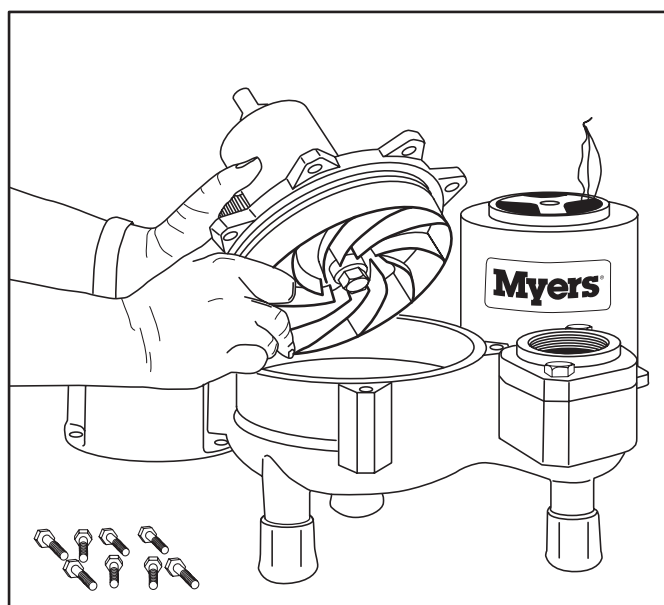

Fig. 17
4. Remove case holding bolts and lift out rotating unit. Pry between ears to loosen. Fig. 17